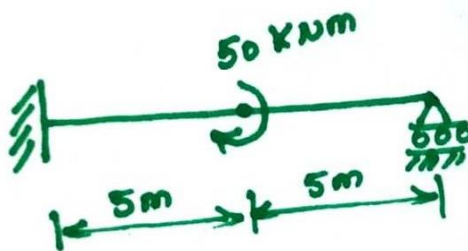

Figure.2
4. A Beam of length 10 m as shown in the figure.2 is subjected to a moment of 50000 Nm (Clockwise) at the midpoint. Assuming two elements, evaluate the displacement. Take $E = 200 \text{ GPa}$, The left half of the beam is of rectangular cross section of width 300 mm and depth 200 mm. The moment of inertia of right half of the beam is twice that of left side. [14]